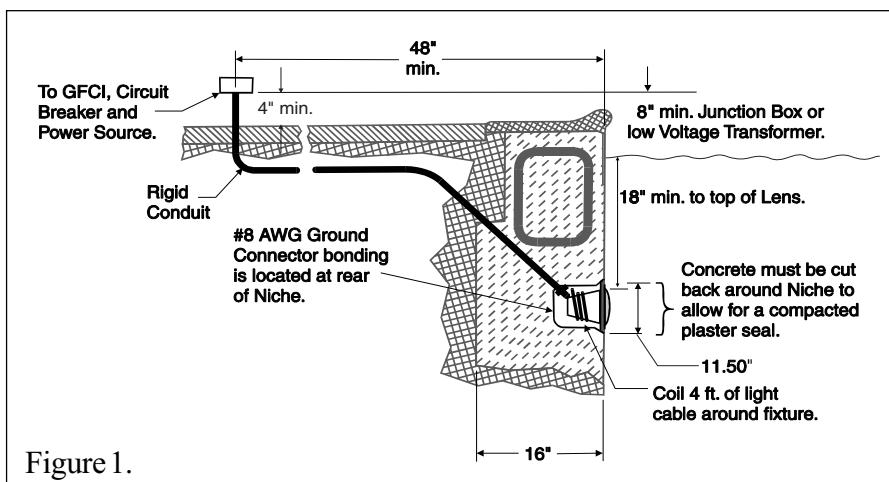

Figure 1.
A. Preparatory steps which must be completed by the electrician before light fixture is installed; see Figure 1.
- b. The Junction Box (or, for 12 volt models, the low voltage transformer) must be located at least 8 inches above water level, 4 inches above ground level, and at least 48 inches from the edge of the pool; see Figure 1.
- d. The wet niche must be properly installed so that the top edge of the lens on the underwater light is at least 18 inches below the surface of the water in the pool; see Figure 1.
- e. The wet niche must be properly electrically bonded and grounded via the No. 8 AWG ground connector located at the rear of the niche; see Figure 1.
1. Feed cord through conduit to Junction Box, leaving at least 4 feet of cord at the light fixture to coil around the light; see Figure 1. This 4 feet of cord around the light allows the light to be serviced after the pool is filled with water.
- b. The Junction Box (or, for 12 volt models, the low voltage transformer) is located at least 8 inches above water level and at least 4 inches above ground level and at least 48 inches from the edge of the pool; see Figure 1.
- d. The wet niche is properly installed so that the top edge of the underwater light's lens is at least 18 inches below the surface of the water in the pool; see Figure 1.
- e. The wet niche is properly electrically bonded and grounded via the No. 8 AWG ground connector located at the rear of the niche; see Figure 1.
- Leave at least 4 feet of cord to coil around the light fixture; see Figure 1. This 4 feet of cord coiled around the light allows the light to be serviced after the pool is filled with water.